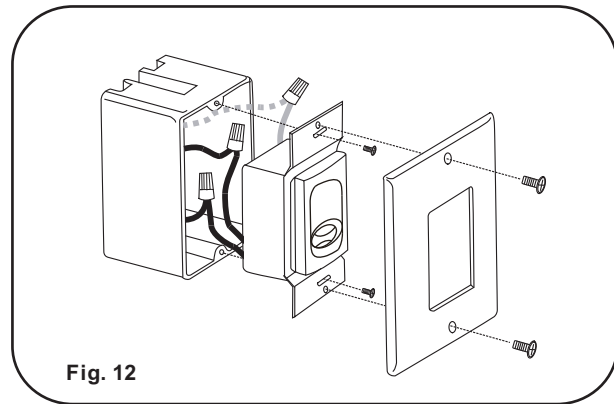

Fig. 12
Step 2. Carefully tuck the wire connections inside the outlet box. Use the screws provided to secure the wall control and wall plate to the outlet box. (Fig. 12)